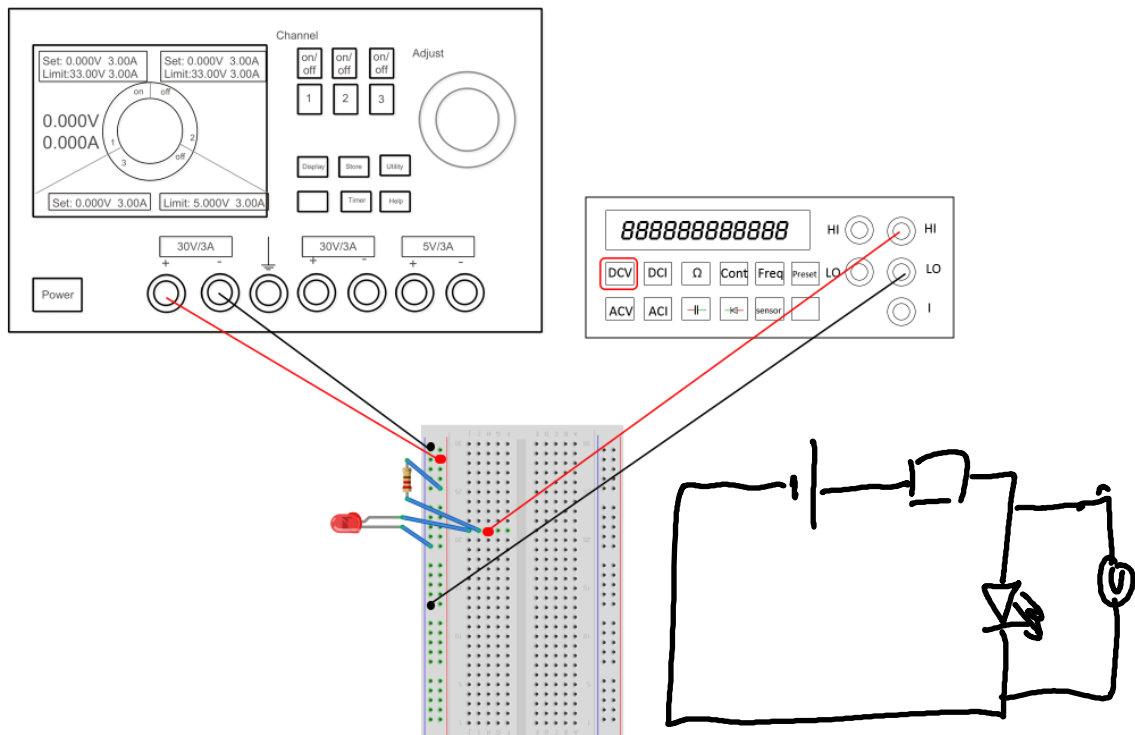

Figure 9: How to measure V_{Ds}
- Connect the multimeter to your LED circuit, the connect way of multimeter is the same as continuity test. And for the circuit end, the black cable should connect to the negative end of DC power, the red cable should connect to the positive end of LED(as show in Figure 9).